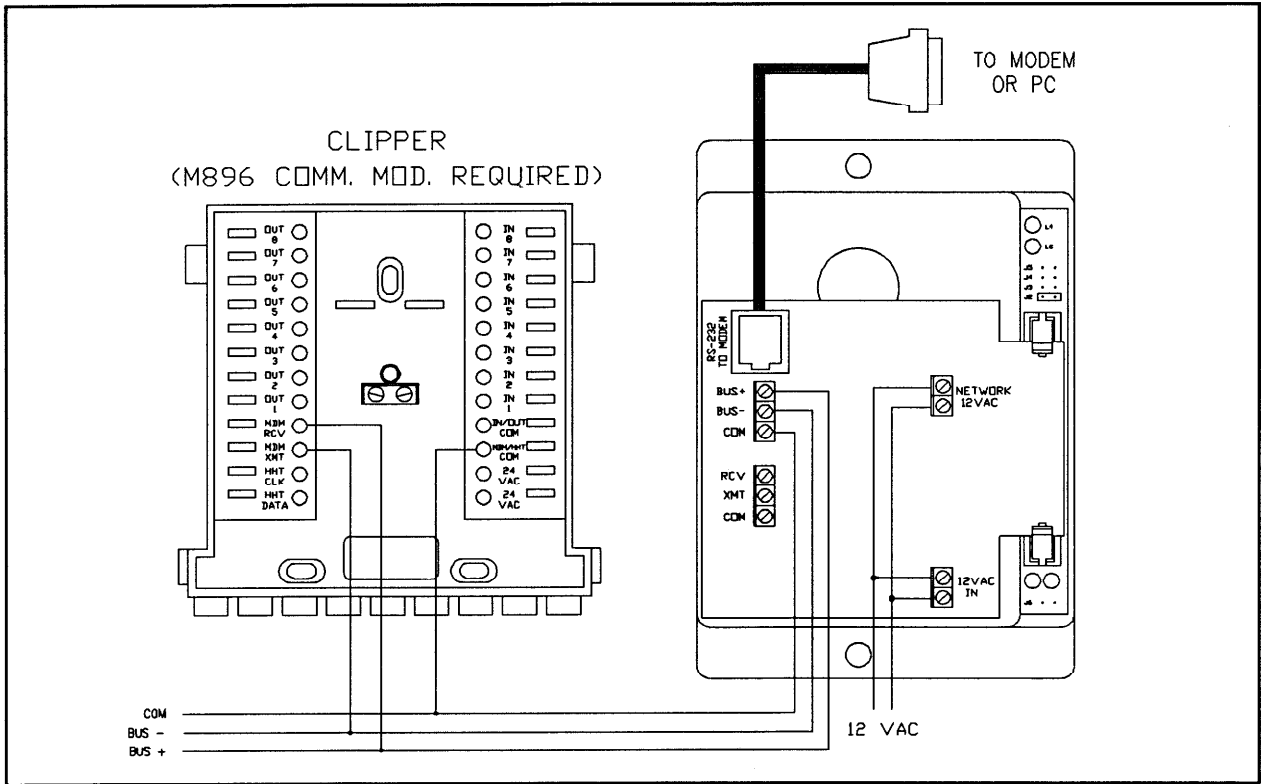

Fig. 4: Clipper LAN/XL to M201 Wiring Terminations
Figure 4 illustrates the proper wiring terminations for a Clipper LAN/XL network using M896 communications modules with an M201.
- 1) Re-verify all wiring terminations according to Figures 4 and 5. Make sure all connections are tight.
- 2) Check the node number and baud rate of the Clipper LAN/XL. If the baud rate of the Clipper LAN/XL is configured different than the baud rate of the PDC832(GH), the Clipper LAN/XL will not communicate. Refer to the PDC832(GH) manual for details on how to configure the software baud rate.